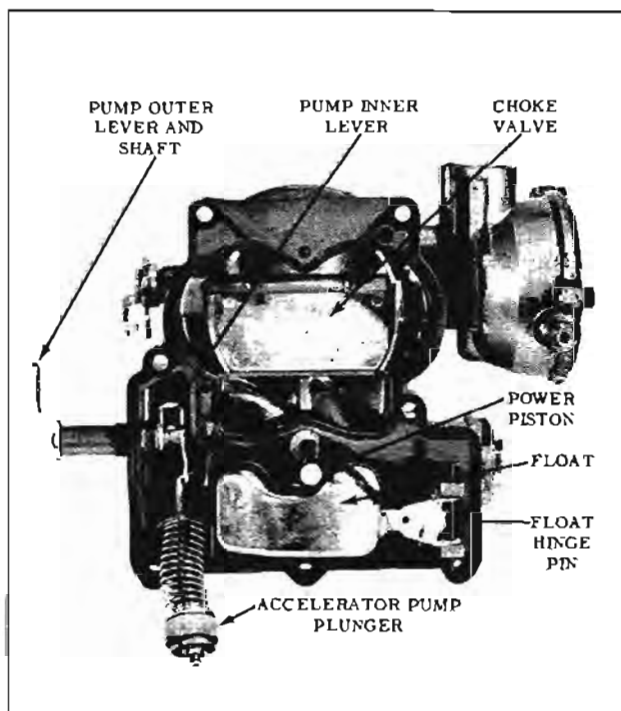

Fig. 9-151 Air Horn Assembly
9. Invert the air horn and place on a flat surface, then remove the float hinge pin, float and needle assembly. Float needle may be removed from float. (Fig. 9-151)